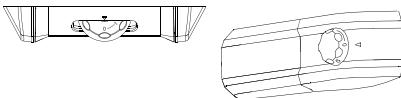

Fig.13
1) Rotate the knob to the "0" position (fig.13)